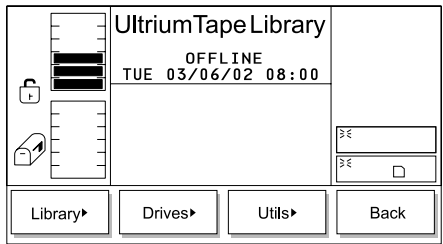

Figure 196. Setup Menu
2. Press the button below the **Setup** softkey. The Setup Menu displays (see Figure 196 on page 160).